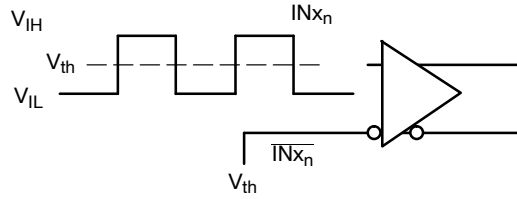
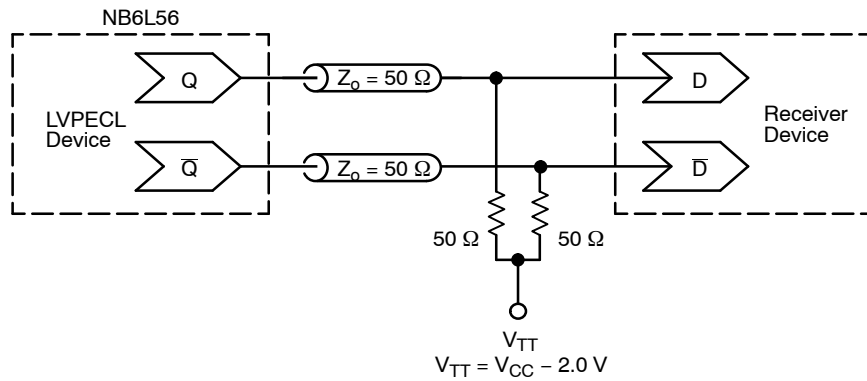

Figure 5. Differential Input Driven Single-Ended
Figure 16. Typical Termination for LVPECL Output Driver and Device Evaluation
DIFFERENTIAL INPUT DRIVEN SINGLE-ENDED (Note 6) (Figures 5 and 6)
- Outputs evaluated with 50Ω resistors to $V_{TT} = V_{CC} - 2.0$ V for proper operation (See Figure 16).
8. Differential 50% duty cycle at $V_{INPPmin}$ clock source. Outputs evaluated with 50 Ω resistors to $V_{TT} = V_{CC} - 2.0$ V (See Figure 16). Input crosspoint to output crosspoint for INxn/INxn̄ to Qx, Qx̄; 50% input to output crosspoint for SELx to Qx, Qx̄. See Figures 5, 10 and 11.